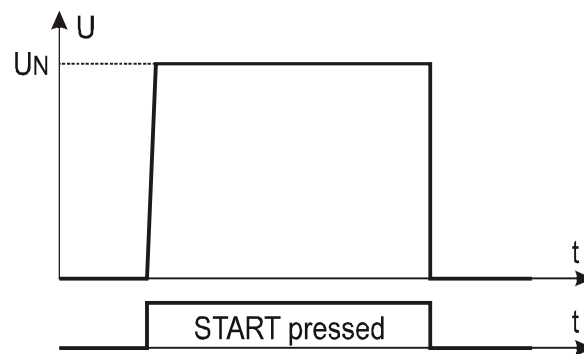

Fig. 36 : DIELECTRIC test in Manual or Burn mode
- **Manual** mode → The test voltage is maintained constantly until the **START/STOP** key is pressed (see Fig. 36). The measured discharge current is compared with the set limit value and the result is stored in memory
- **Burn** mode → The test voltage is maintained constantly until the **START/STOP** key is pressed (see Fig. 36) but the result is NOT compared with any limit and is NOT stored in the memory (functional test)